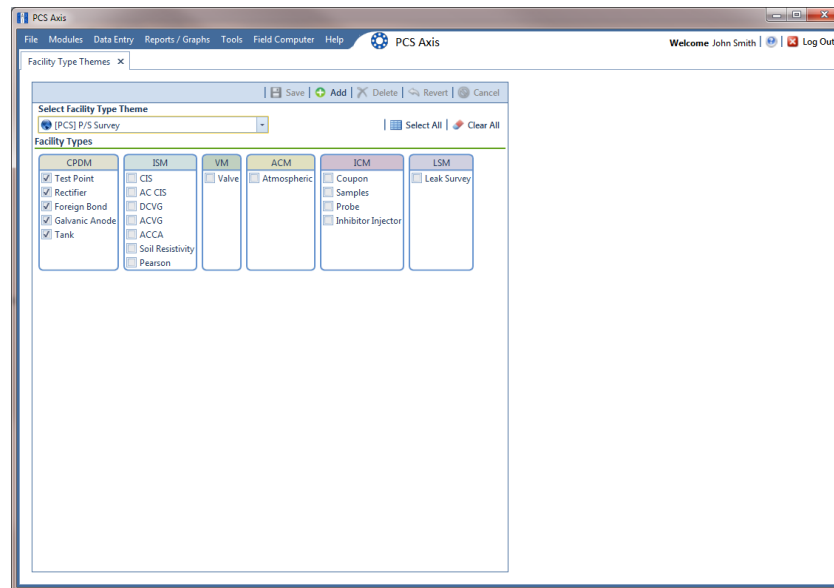

Figure 15-1. Facility Type Themes
- 1 Click **Tools > Facility Type Themes** to open the *Facility Type Themes* window (Figure 15-1).
- Click the check box for each facility type you want to add, then click  **Save**. A check mark inside a check box indicates a selection (Figure 15-1).